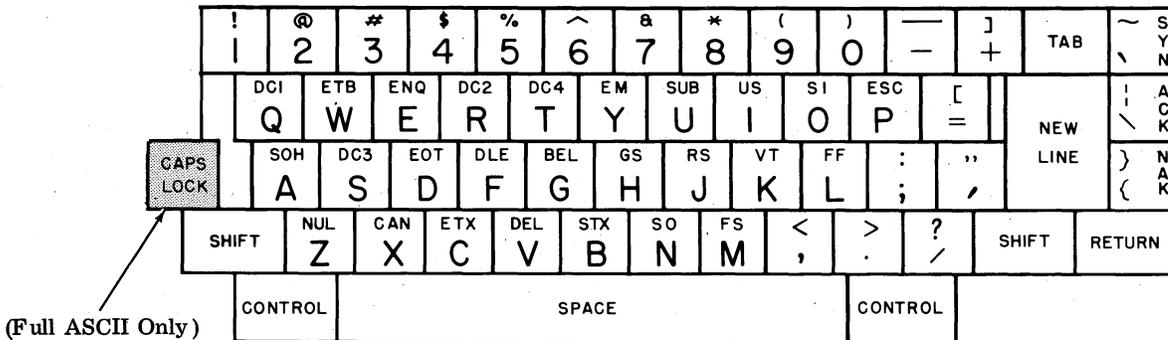

Figure 13 - KD or KDP Keyboard
2.36 Figure 13 shows the keyboard of the operator console. The graphic key layout is similar to that of a standard office typewriter, with additional keys to provide ASCII control characters. The keyswitch and logic circuit design permits high speed operation (over 2000 words per minute). If a key is depressed before another key is fully released, outputs are produced sequentially for each key depressed.